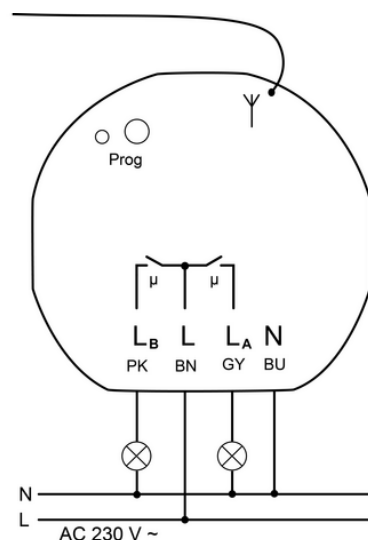

Figure 3: Connection example
- Connect actuator to lamp terminals according to connection example (figure 3) (see Using the lamp terminals).